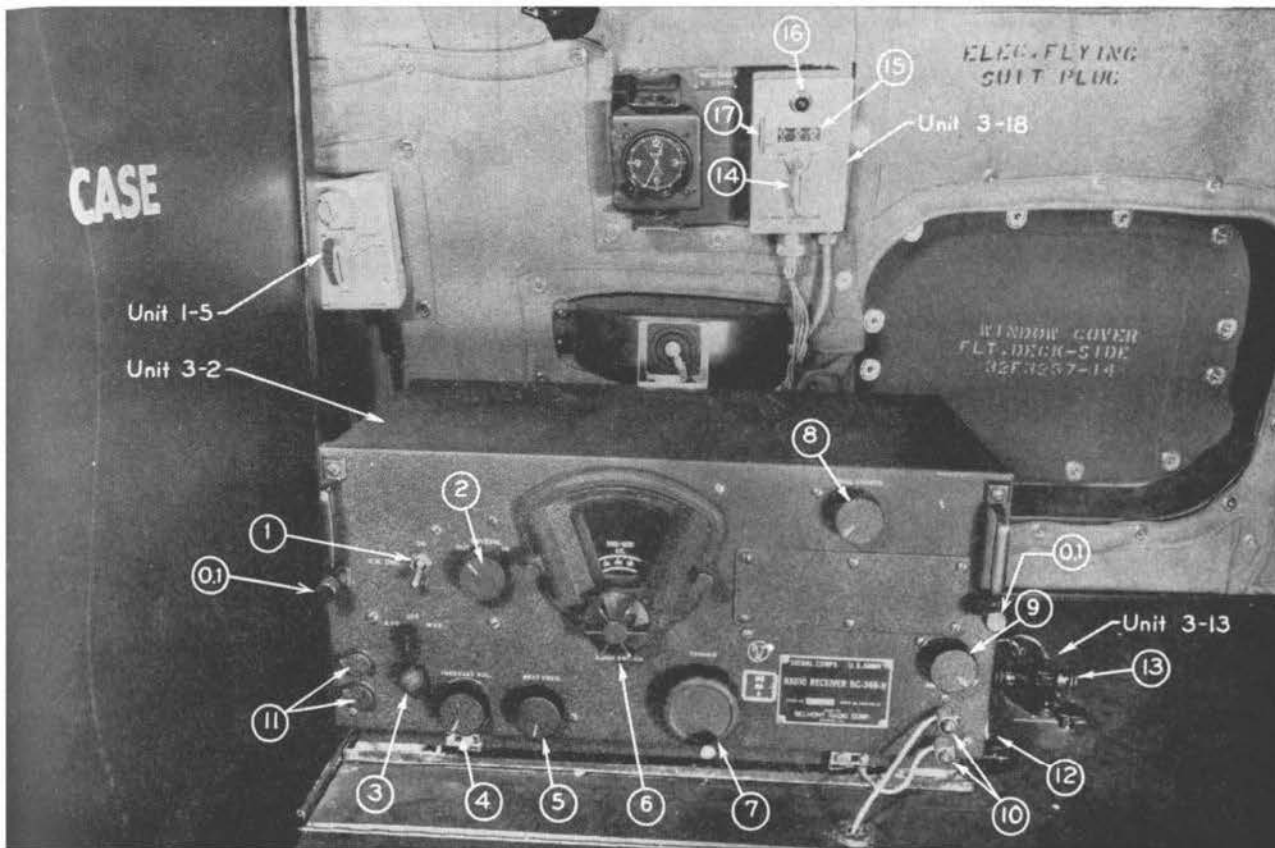

Figure 101. Liaison Receiver
1. Throw the "AVC-OFF-MVC" switch (3), Figure 101, to "MVC" and set other switches and controls as follows:
- "C-W OSC" switch (1) in "OFF" position.
- "CRYSTAL" switch (2) in "OUT" position.Antenna alignment set to maximum background level.
2. Set the band switch (6) or signal strength at approximately 500 KC., to the desired frequency band and adjust the tuning control (7) to the desired frequency. It is of great importance that this tuning be accomplished with the receiver switch in the MVC position.
1. Loosen the two thumb screws (0.1), Figure 101, on the receiver panel and draw the chassis from the cabinet.